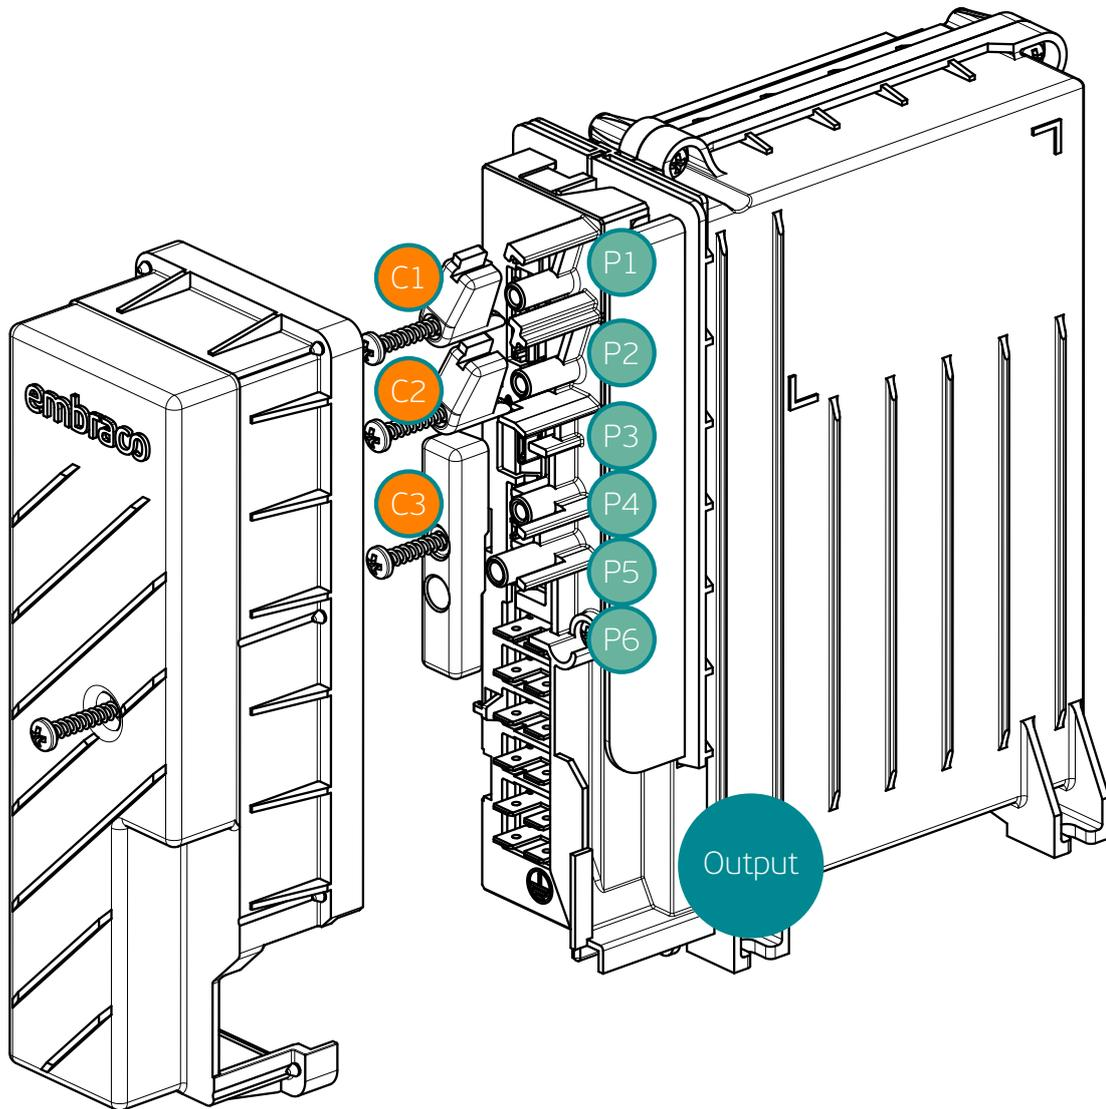

Figure 3.1: Cable paths and cord reliefs
The CF05D inverter is supplied only with compressor motor cable, which has your own cord relief. The compressor motor cable is already assembled in the inverter. The input power cord, grounding and communication cables are not provided by Embraco. As shown in Figure 3.1, the CF05D has 5 cable paths and 2 cord anchorages dedicated to retain the system cables.
2. Make the electrical connections and route the cables through the cable path (see Figure 3.1).
3. Route all the cables through the output (see Figure 3.1).
- The screws shown in Figure 3.1 must be fixed with torque of 1.0 Nm ( $\pm 0.2$ ).